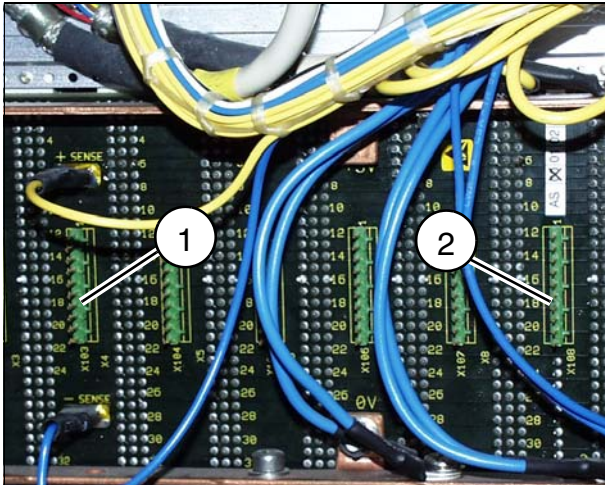
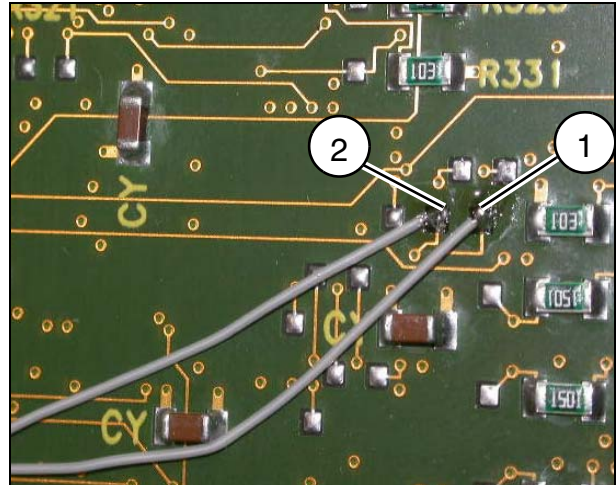

Fig. 1
Fig. 2
- Run the cables on the rear of the electronics frame from terminal strip X103 (1/Fig. 1) to terminal strip X108 (1/Fig. 2)
- On PC board D3, solder the following wires (1/Fig. 2):
- From terminal strip X1/c23 to (1/Fig. 2).
- From terminal strip X1/c25 to (2/Fig. 2).